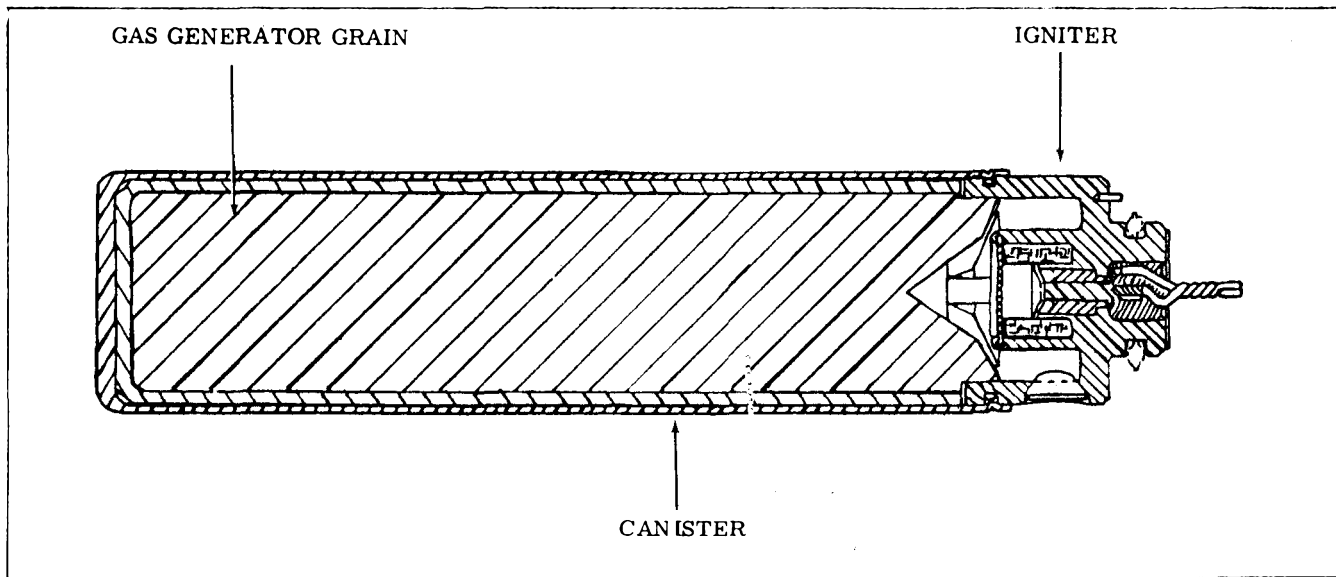

Figure 5-40. Gas Generator
a. Gas Generator: Located in the G&C section. Electrically ignited solid grain propellant. Provides electrical power and pneumatic power for operating the control surfaces (reference figure 5-40).